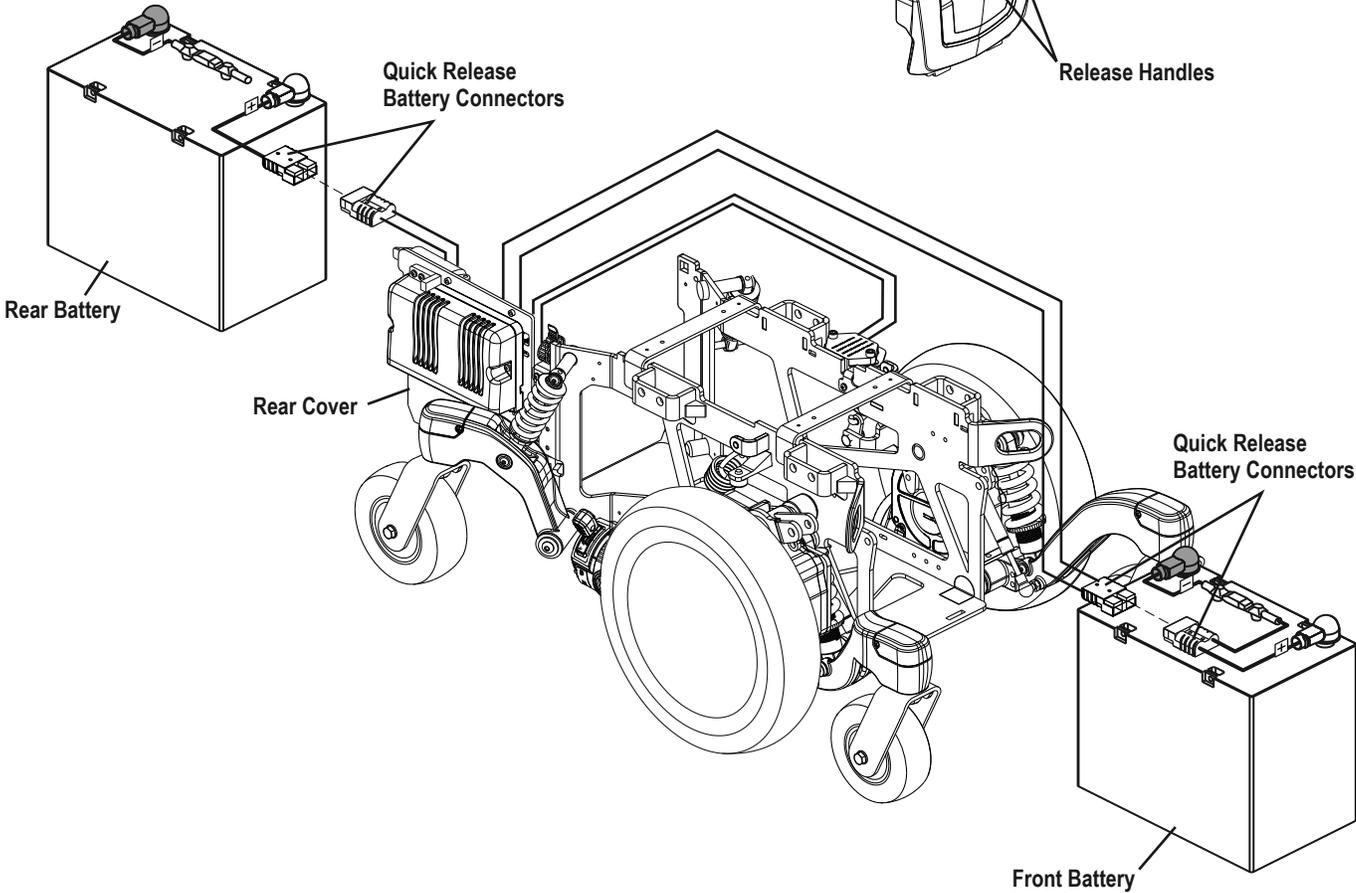

Figure 14. Battery Installation
3. Remove the front cover by squeezing the release handles (**see figure 14**) and lifting the front cover up and away from the power base.
4. Remove the rear shroud by rotating the two (2) yellow clips out toward the drive wheels. Lift the rear cover up and away from the power base.
6. Disconnect the quick release battery connectors. **See figure 14.**
9. Connect the battery harness to the new front battery according to the battery wiring diagram. **See figure 14.**
10. Connect the battery harness to the new rear battery according to the battery wiring diagram. **See figure 14.**